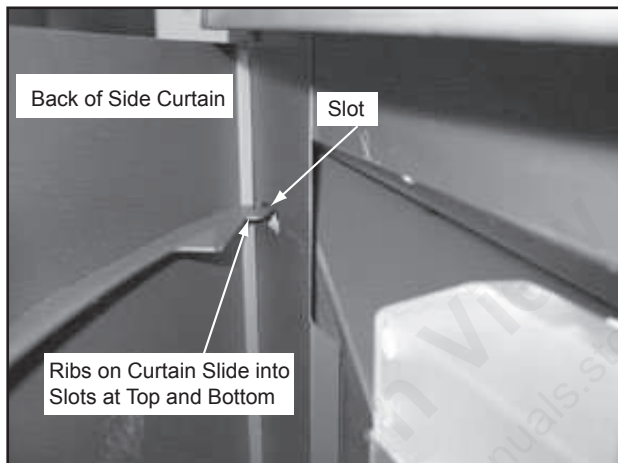
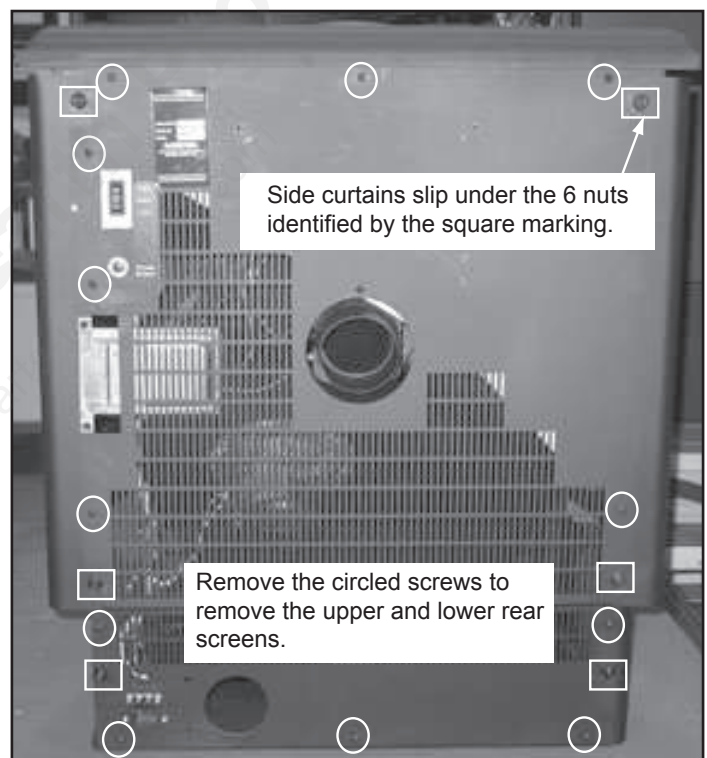

Figure 35.1
Figure 35.3
- Remove the right upper and lower side curtains by loosening 7/16" nut in th back and lift off of the appliance. When re-installing flex curtain to re-attach. **Figure 35.1.**
- Remove both upper and lower side curtains. **Figure 35.1.** Remove the upper and lower rear curtains. **Figure 35.3.**